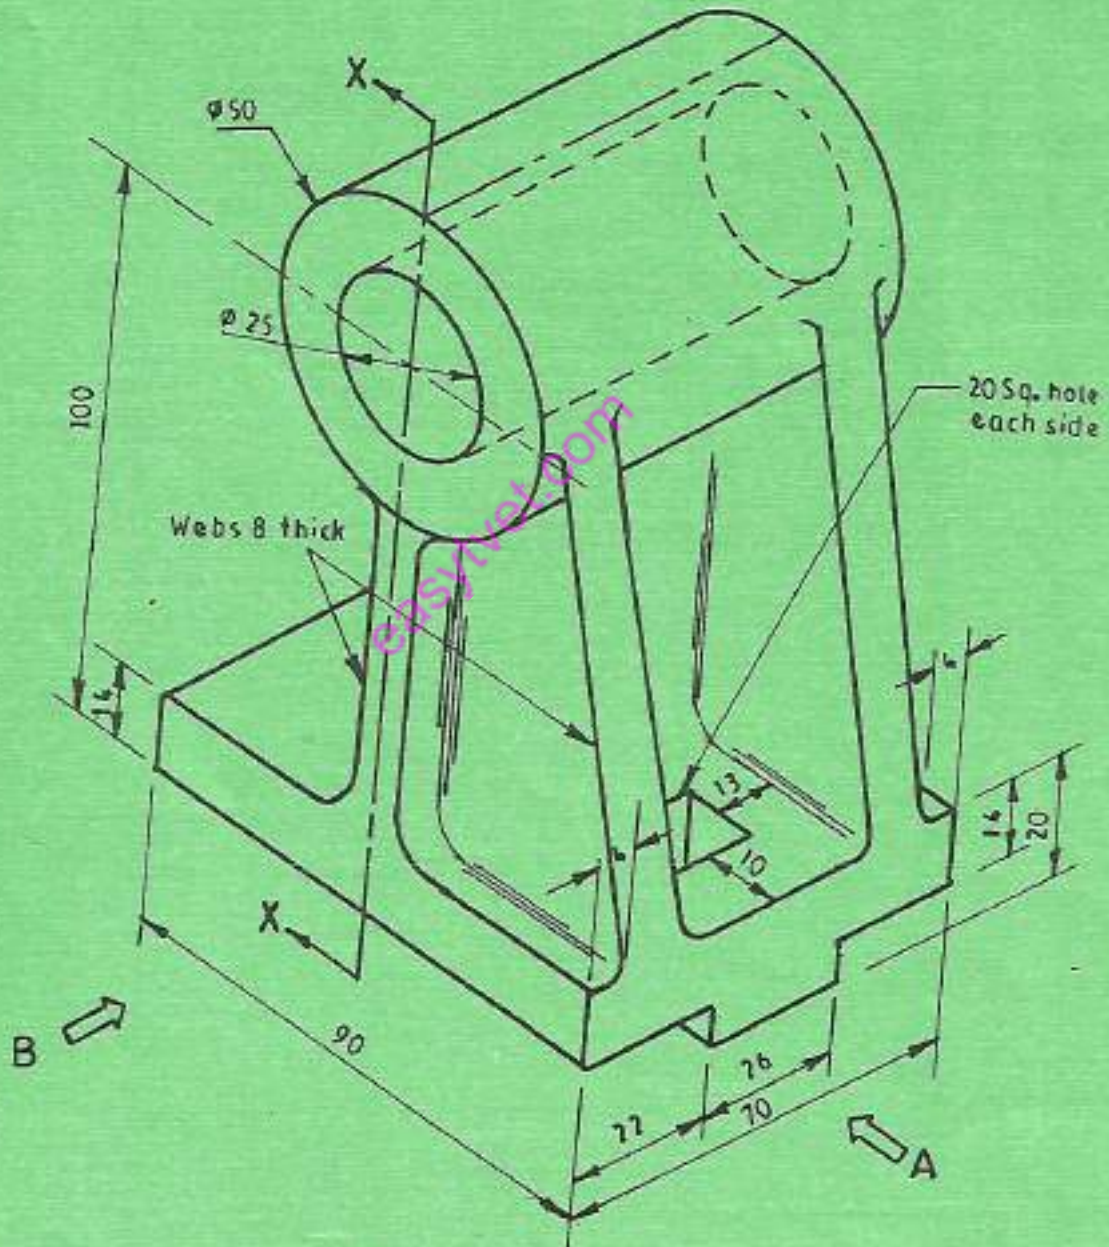

Fig. 1
5. Figure 1 shows a cast-iron web bracket. Draw in first angle projection: